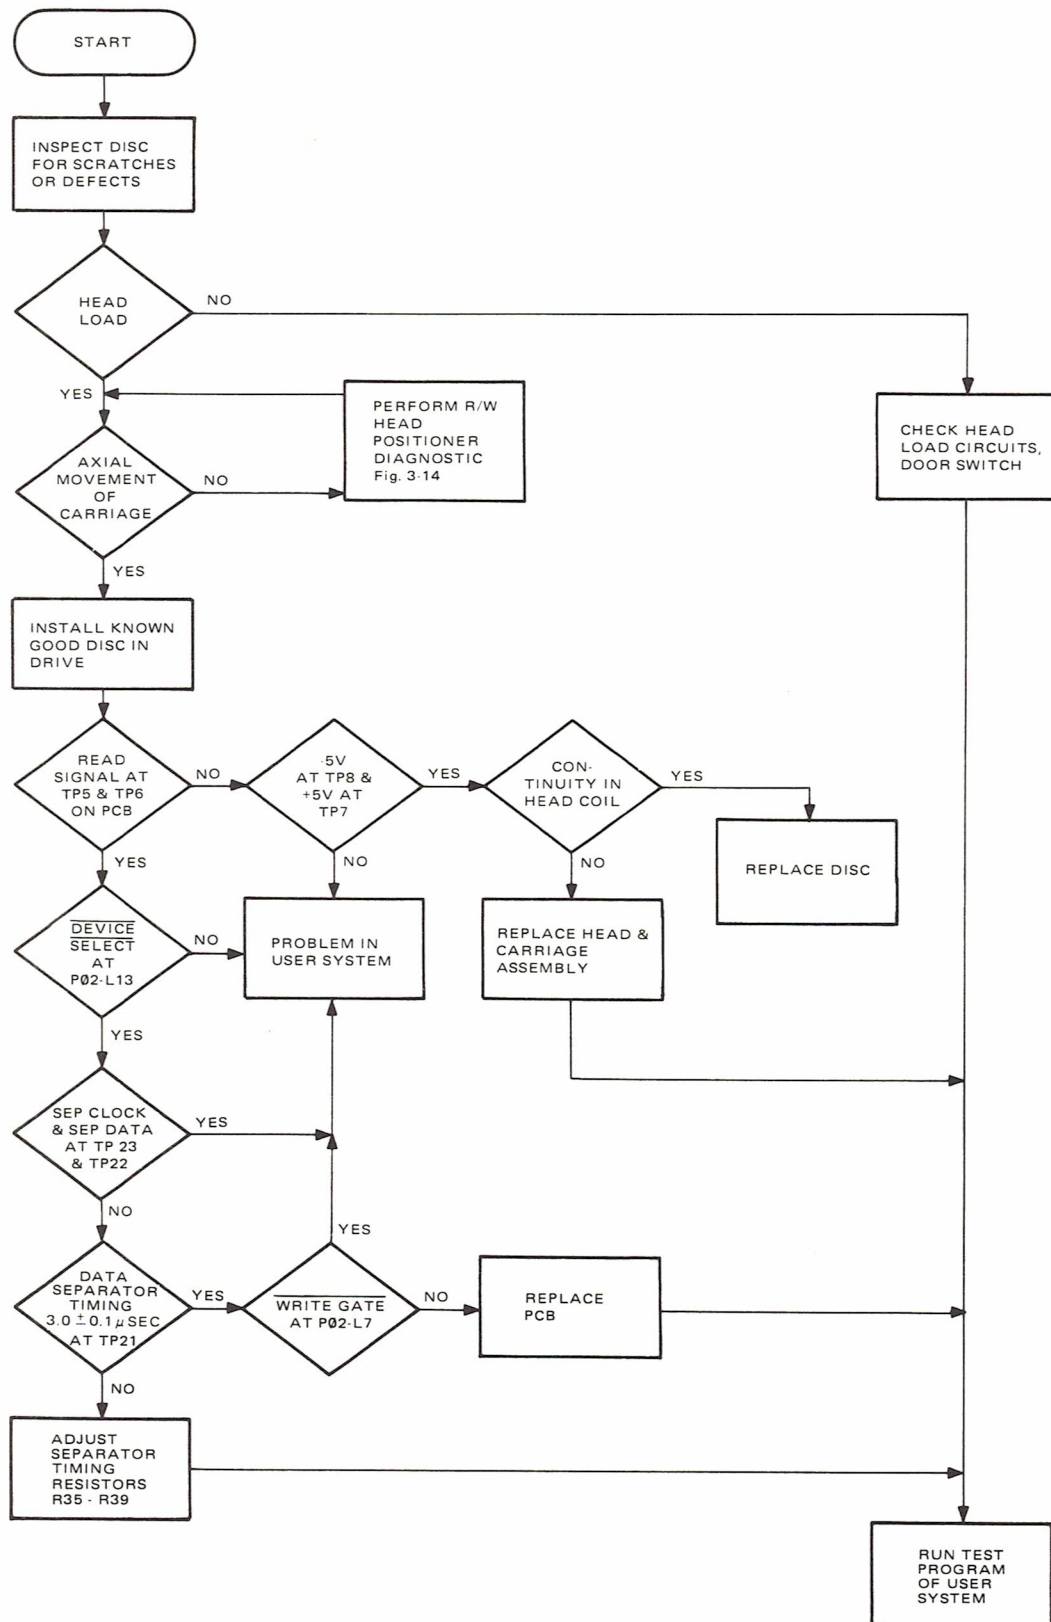

FIGURE 3-7 READ CIRCUIT DIAGNOSTIC FLOW CHART
- (1) Reread the track three times or until such time as the data is recovered.
- (2) Step the head one track in the same direction as last moved, then step back to the desired track.
- (3) Repeat Step (1).
- (4) If data is not recovered, a hard error exists and reference should be made to the Read Circuit Diagnostic Flow Chart shown in Figure 3-7.